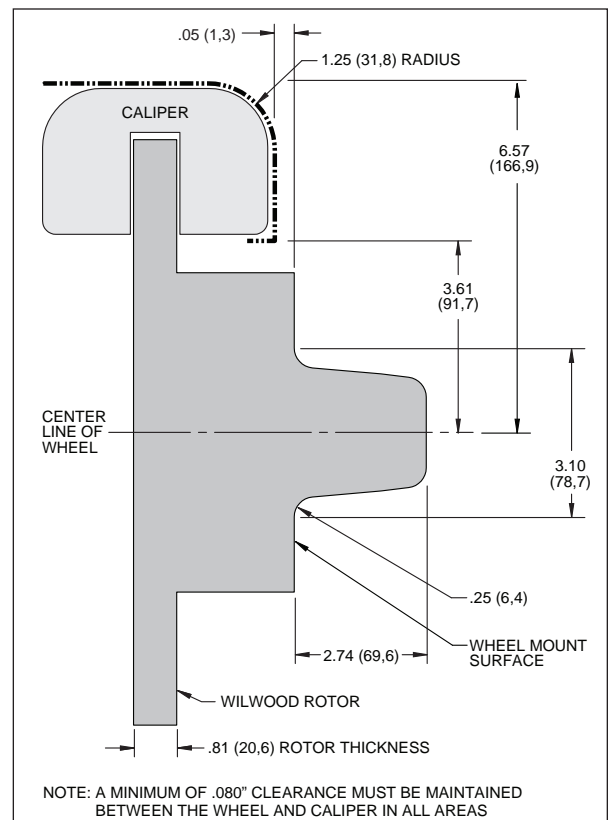

Figure 2. Wheel Clearance Diagram
- Review the Wheel Clearance Diagram (Figure 2, page 3) to verify that there is adequate clearance with the wheels you will be using with the installation.
- Verify the new hub stud pattern in this kit matches the lug pattern of the vehicles wheels. CDP hubs have a 5 x 4.50" and 5 x 4.00" pattern. The 5 x 4.00" pattern does not guarantee fitment with all 5 x 4.00" wheels, either OEM or aftermarket. It is important that the center hole clearance be 3.10" or larger to clear hub snout in the kit, Figure 2.
- Verify wheel clearance utilizing Figure 2.